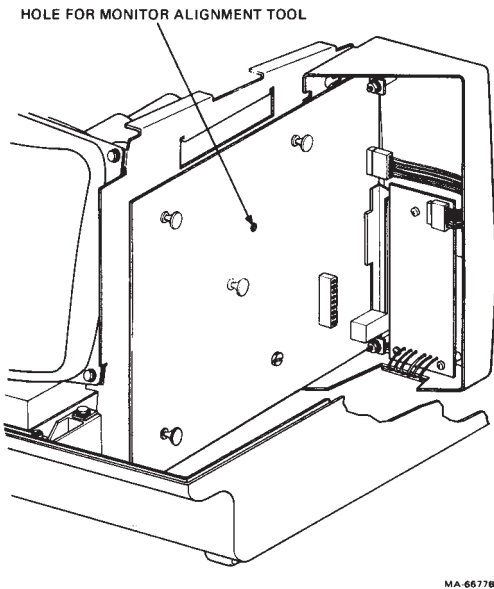

Figure 3-5 Horizontal Width Coil Adjustment
2. Adjust the horizontal width coil L403 (Figure 3-5) with a monitor alignment tool (PN 29-23190-00) and shaft extender (PN 29-23189-00). L403 is adjusted by placing the alignment tool through the hole in the terminal controller board, through the chassis and video board, and into position on the coil.